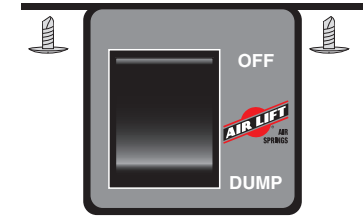

Figure 8
2. Using the two provided self-tapping screws, attach the switch to the chosen mounting location (Figure 8).